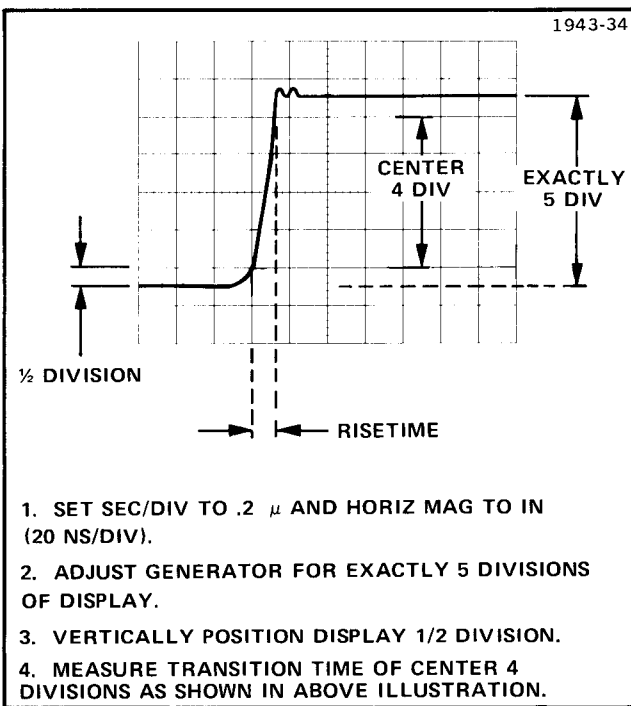

Fig. 6-10. Risetime measurement.
f. ADJUST—C110, R109, C461 and C475 (see Adjustment Locations) for best front corner and flat-top waveform with risetime of 10 ns or less and total aberrations not to exceed 0.2 division peak-to-peak (see Fig. 6-10).
l. ADJUST—C110, R109, R408, R413, R441, C442, and R443 for flat-top waveform with aberrations of 0.2 division or less and a risetime of 10 ns or less (see Fig. 6-10).